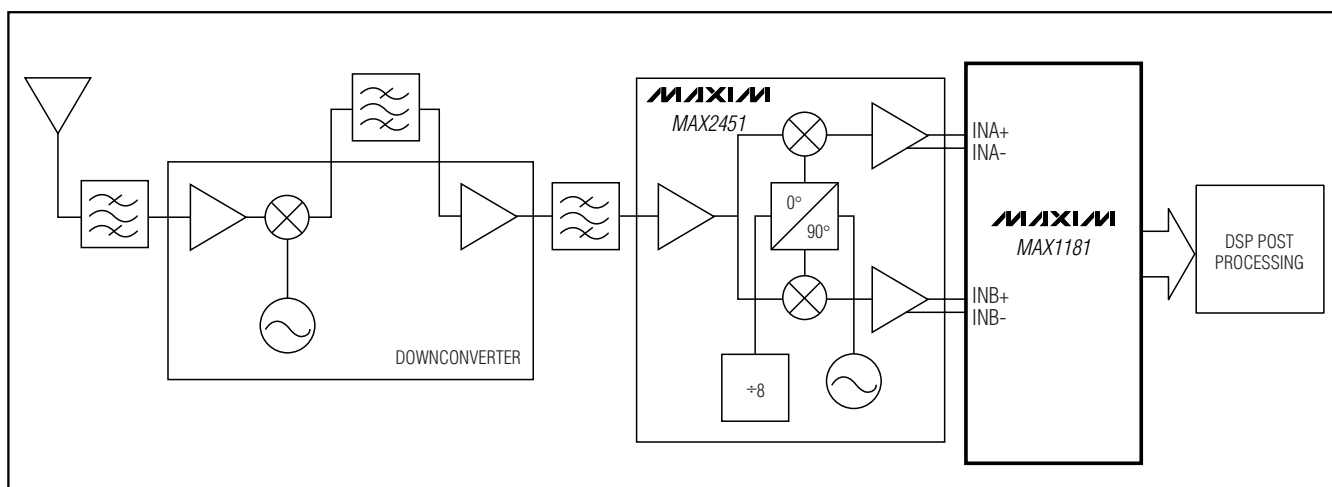

Figure 8. Typical QAM Application, Using the MAX1181
The most frequently used modulation technique for digital communications application is the Quadrature Amplitude Modulation (QAM). QAMs are typically found in spread-spectrum based systems. A QAM signal represents a carrier frequency modulated in both amplitude and phase. At the transmitter, modulating the baseband signal with quadrature outputs, a local oscillator followed by subsequent up-conversion can generate the QAM signal. The result is an in-phase (I) and a quadrature (Q) carrier component, where the Q component is 90 degrees phase-shifted with respect to the in-phase component. At the receiver, the QAM signal is divided down into its I and Q components, essentially representing the modulation process reversed. Figure 8 displays the demodulation process performed in the analog domain, using the dual-matched, 3V, 10-bit ADCs, MAX1181 and the MAX2451 quadrature demodulators, to recover and digitize the I and Q baseband signals. Before being digitized by the MAX1181, the mixed-down signal components may be filtered by matched analog filters, such as Nyquist or pulse-shaping filters which remove any unwanted images from the mixing process, enhances the overall signal-to-noise (SNR) performance, and minimizes intersymbol interference.